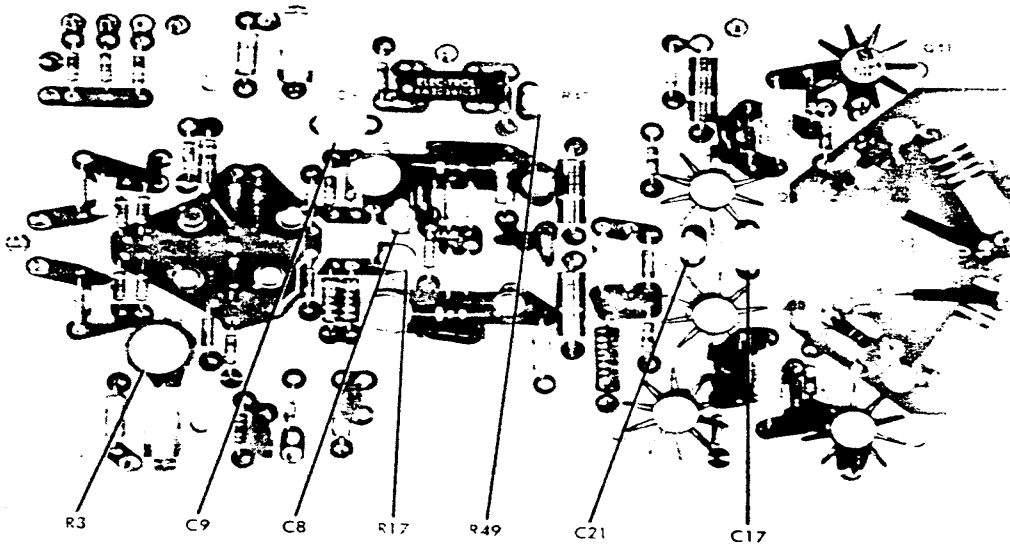

Figure 3. Vertical amplifier adjustments (subassembly 7963).
(2) Rotate CH1 POSITION control fully counterclockwise and then fully clockwise. If negative and positive portion of display is not equal distance above and below horizontal graticule centerline, perform **b** below.
b. Adjustments. Adjust A1A5R3 (fig. 3) until display is equal distance above and below horizontal graticule centerline.
Test instrument Volts/Div switch settings	Adjustments (fig. 3)
- (1) Connect ac calibrator (A2) to TI CH1 INPUT, using cable (B5).
- (2) Set TI VERTICAL MODE switch to CH1 and VOLTS/DIV switch to .01.
- (3) Adjust ac calibrator frequency for 1 kHz and Output for 21.21 mv.
(4) Set TI VOLTS/DIV switch to .05 and VERT GAIN X1/X5 switch to X5. If crt does not display 6 divisions of deflection, perform **b** below.
b. Adjustments. Adjust A1A5R49 (fig. 3) for 6 divisions of display on crt. (R)
- (2) Adjust HF ADJUST A1A5C9, A1A5C8, and A1A5R17 (fig. 3) for optimum flat top square wave.
- (3) Adjust A1A5C21 (fig. 3) for minimum peaking on square wave.
- (5) Adjust A1A5C17 (fig. 3) for fastest risetime with minimum overshoot.